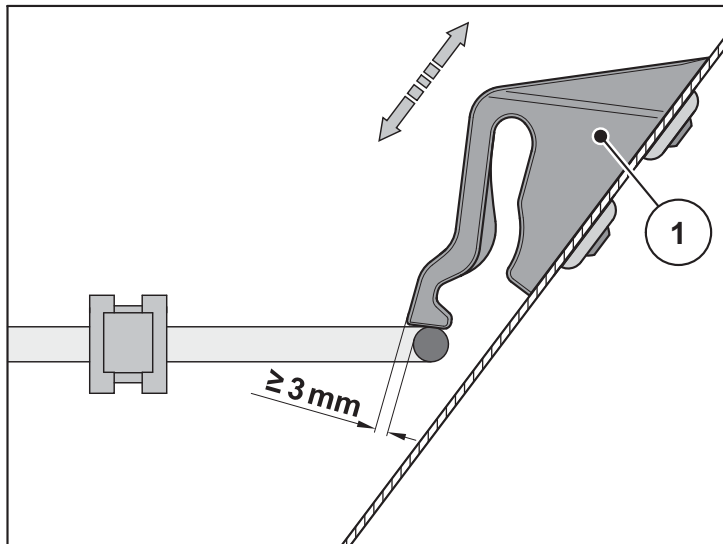

Figure 9.4: Test dimension for functional check of the protective grid interlock
- Correct if necessary by displacing the protective grid interlock [1] the setting downwards/upwards (see figure 9.4).